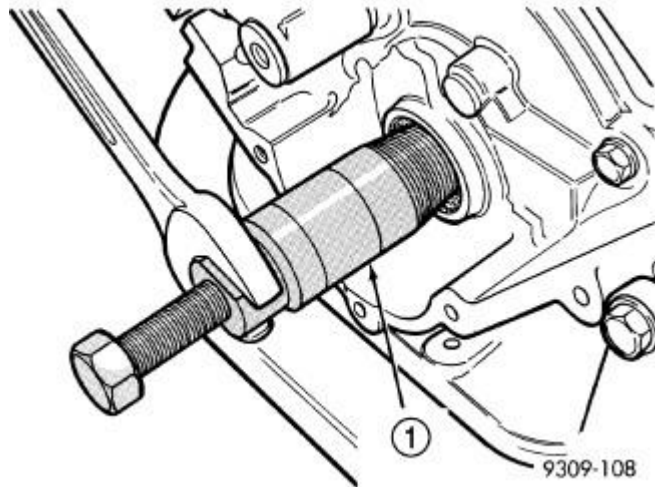

Fig. 369: Crankshaft Oil Seal With Special Tool 6341A - Removal
3. Remove crankshaft seal using Tool (special tool #6341A, Remover, Seal) (1). Refer to **Fig. 369**.